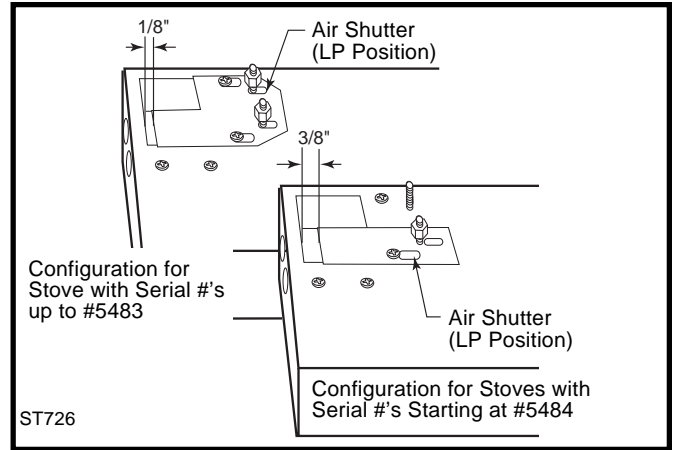

Fig. 34 LP air shutter settings.
16. Adjust air shutter on the burner. The air shutter is located on the bottom of the burner on the left. (Fig. 46) Loosen the two nuts holding the shutter in place. On natural gas units, the shutter is shipped fully closed. To convert to LP, reset the shutter as specified in Table 2. (Fig. 34) On propane unit the shutter is set at 1/8" or 3/8" opening depending on rating plate serial number. To convert to natural gas, the shutter should set to fully closed. Refasten the two nuts.